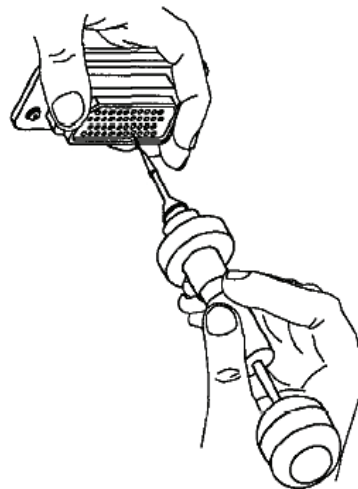

Figure 18. Extracting Contact from Connector
- f. Remove tool and unlocked contact from connector by withdrawing tool from connector (Figure 18).